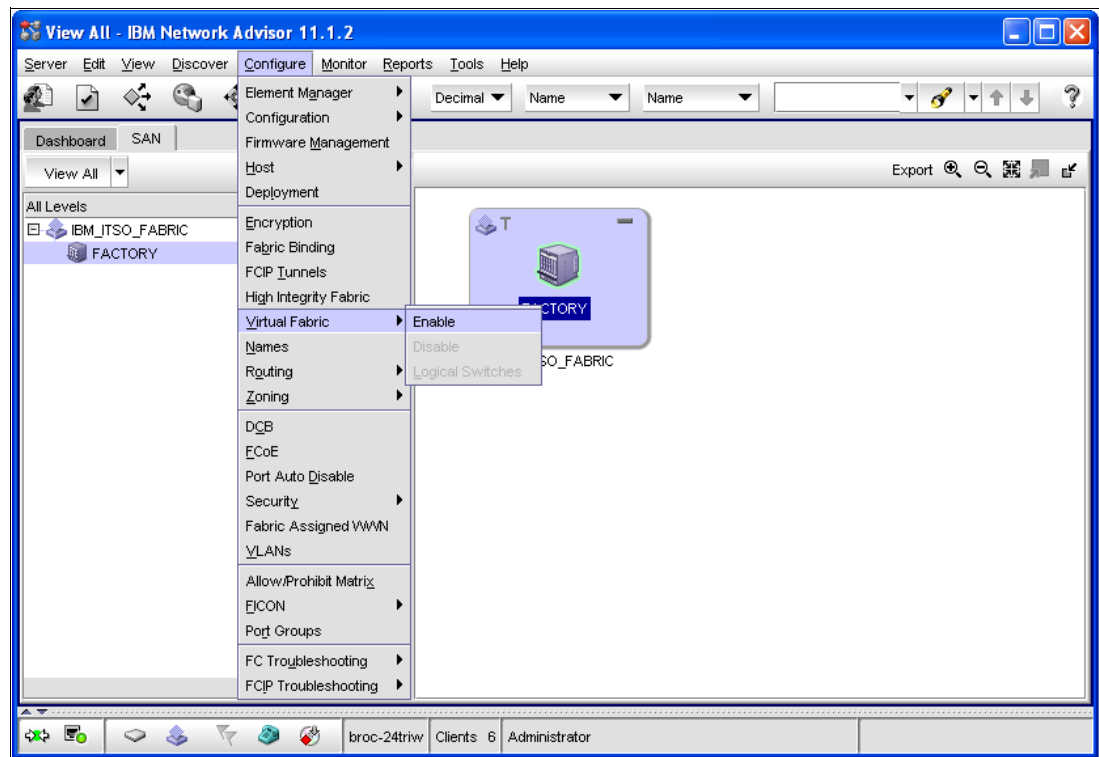

Figure 8-28 Enable Virtual Fabric
2. Select the Director, and select **Configure** → **Virtual Fabric** → **Enable** at the menu bar, as shown in Figure 8-28.